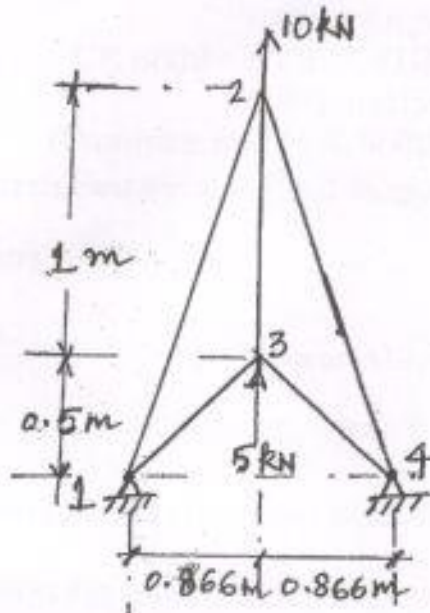

Fig. Q. 16 (a)
16. a) For the two dimensional truss structure shown in Fig. Q. 16 (a), formulate the global stiffness matrix $[K]$. The geometry and loading are symmetrical about centre line. Assume the area of cross section of all members is same Take $E = 2 \times 10^5 \text{ kN/m}^2$.